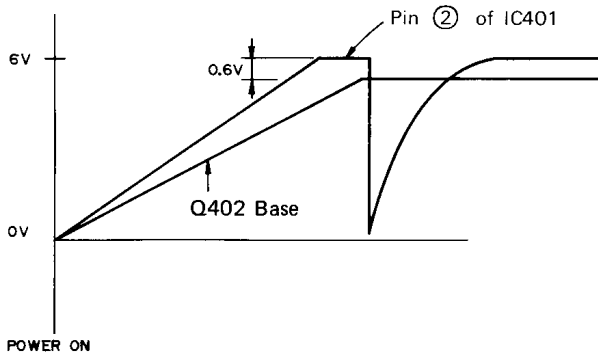
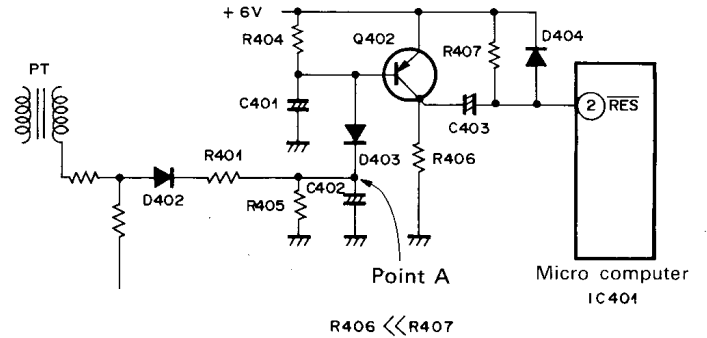

Fig. 12-3-1 Voltage is raised when power supply is ON
Fig. 12-3-2 Reset circuit
1. When power supply is ON (See Fig. 12-3-1 and Fig. 12-3-2):